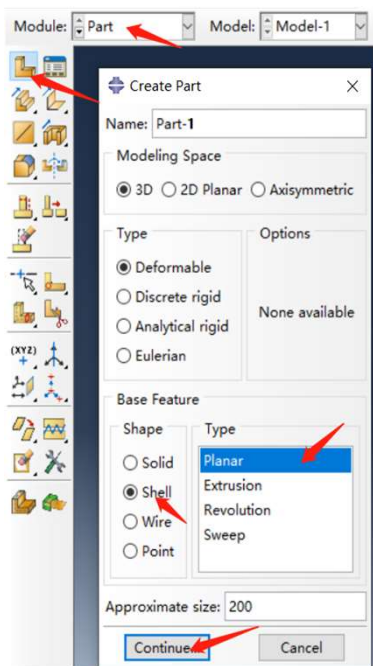

Figure 1
- Click Module > Part > create part > Shape > Shell > Type > Planar > Continue (Fig.1)